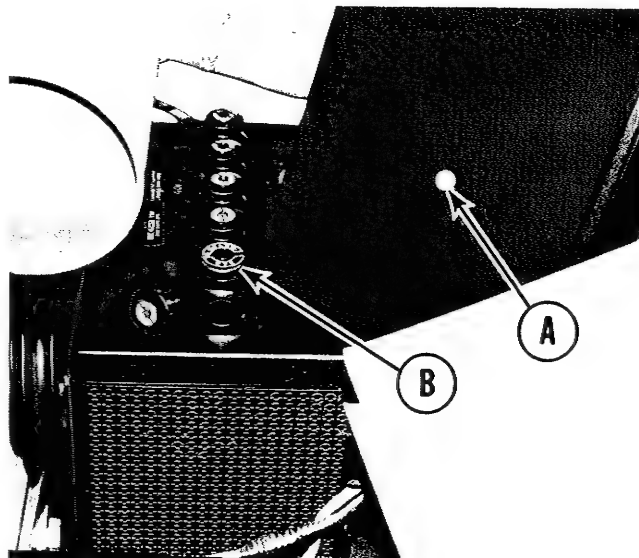

Figure 25. Battery located at the front of tractor under the hood.
CHECK THE BATTERY WATER LEVEL: See figure 25. The battery water level may be checked by looking through the cover hole (A) at the Delco eye (B). When the battery is low on water, the Delco eye will light up. The Delco eye must be kept clean and installed in the second cell from the positive battery terminal. The battery cover may be removed to check each cell individually and for adding water. When the battery is in use water evaporates from it. **NEVER ALLOW THE WATER LEVEL IN THE BATTERY TO GET BELOW THE TOP OF THE PLATES.** Fill the battery to the marking ring with distilled water. If distilled water is not available, clean tap water may be used. Water evaporates faster under high operating temperatures. Check the battery more often in warm weather.